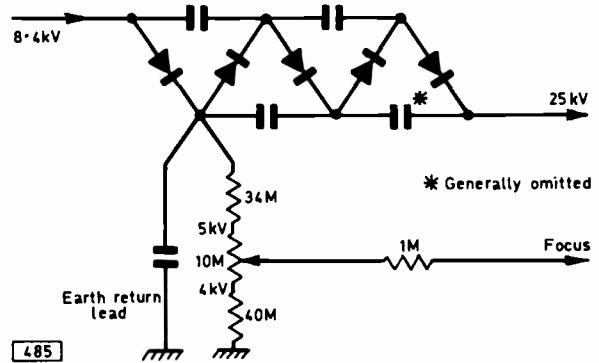

Fig. 4: Tripler circuit with simple focus network.
With a multiplier it is convenient to take the focus voltage from the cathode of the first rectifier in the chain. The tracking of this voltage with the e.h.t. is not so good but is adequate. Several arrangements are possible, the most usual being shown in Figs. 4-6. The simple resistor chain networks in the circuits shown in Figs. 4 and 5 can be made in three ways: (1) Special high-voltage resistors can be mounted directly on a printed panel together with a high-voltage potentiometer: such resistors are fairly costly and the board needs to be of fibreglass to reduce the chance of tracking. (2) Low-cost carbon resistors may be included inside the multiplier and the whole assembly filled with resin to eliminate air around the components and prevent flashovers: the thermal properties of the resin can be selected so that the components run much cooler. (3) The potentiometer and resistors can be deposited by thick-film techniques on a ceramic substrate: high resistance values with good stability and small size are obtained by this technique.
The basic tripler circuit shown in Figs. 4 and 6 is perfectly satisfactory with valve timebase circuits although a resistor (470Ω) should be included in the earth return lead to reduce the current through the multiplier in the event of e.h.t. flashover (R605 in the TELEVISION colour receiver!). To reduce costs the final capacitor in the network is often left out, the anode-to-earth capacitance of the tube taking its place.